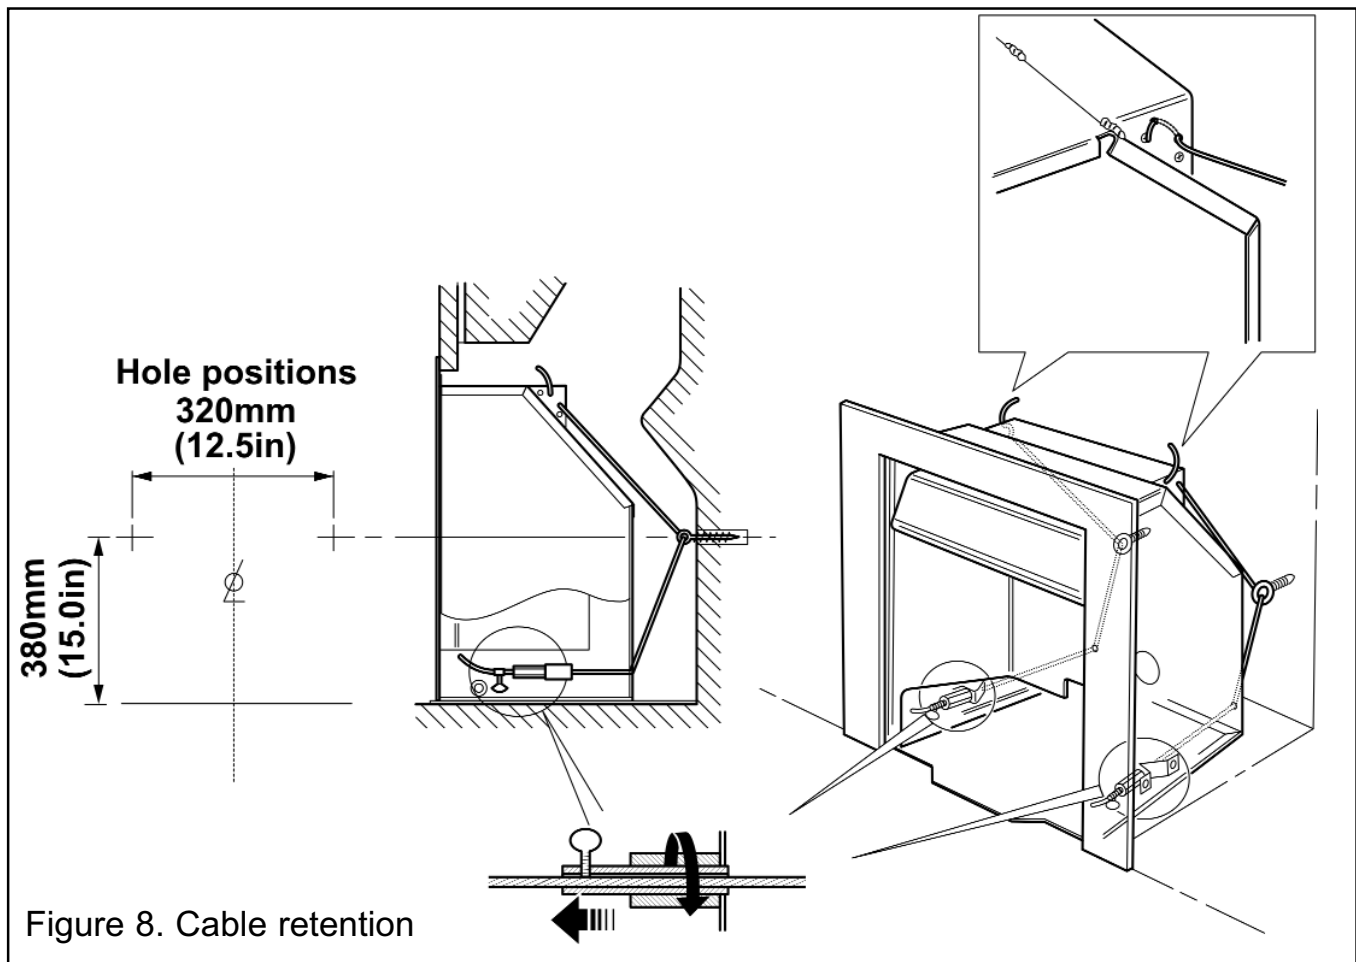

Figure 8. Cable retention
1. Drill two holes in the rear wall of the fireplace for the eyebolt plugs. The holes should be drilled in the positions shown in figure 8 using a suitably sized masonry drill for the wall plugs supplied. The holes should be equidistant each side of the centre line of the fireplace to ensure that the appliance finishes centrally in the opening when tension is applied to the cables.
4. The convection box has two holes at each end of the debris deflector (See figure 8). Insert one end of each cable (one cable each side) from the back through the lower of the two holes and return the end through the upper of the holes (See figure 8). Give the cables a pull so that they grip against the debris deflector sides.
5. Thread the cables through the eyebolts. Return the cables through the holes near the bottom of the convection box back panel and through the brackets near the bottom of the convection box sides (See figure 8).
8. Pull each cable taut. Push the cable retainers hard up against the brackets. Tighten the screws in the retainers so that they clamp the cables in position. Apply tension to the cables by turning the hexagonal adjusters by hand (See figure 8).